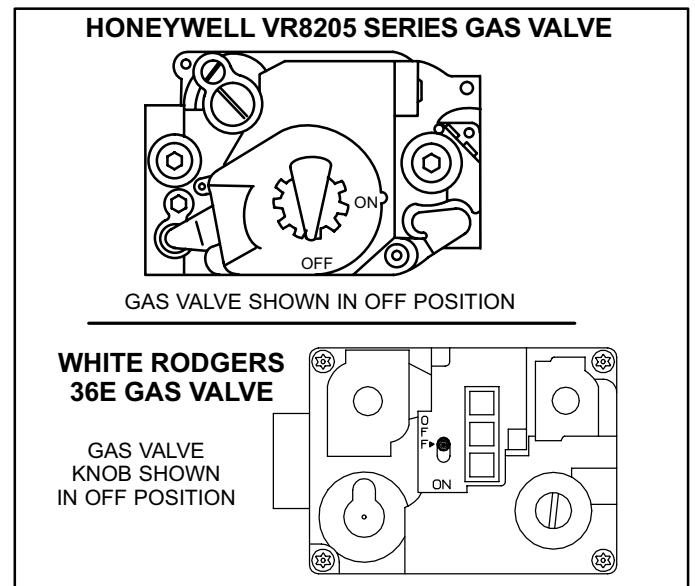

FIGURE 34
How To Operate Gas Valve (Figure 34)
- 6 - On Honeywell VR8205 gas valves, turn knob on gas valve clockwise  to **OFF**. For White Rodgers 36E gas valves, move switch to **OFF**. Do not force. See figure 34.